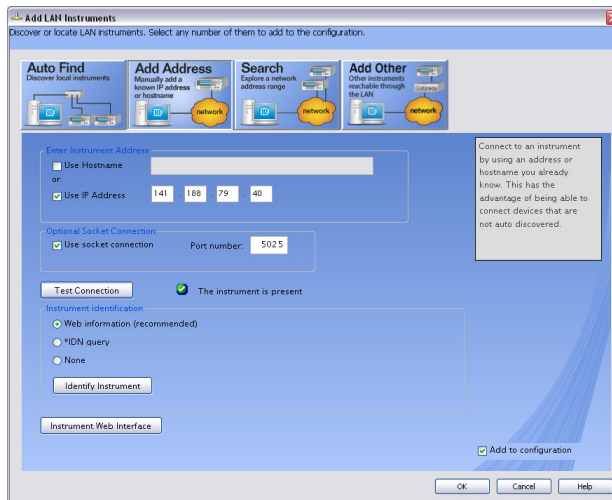

Figure 1-15 Add LAN Instruments dialog
- 3 In the Add LAN Instruments dialog (**Figure 1-15**), click **Add Address** at the top of the dialog.